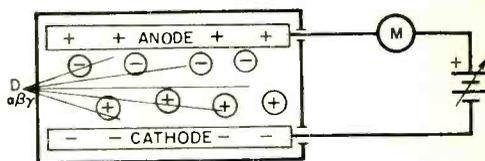

Fig. 3. Ionization current measurement.
**Detecting Ionization Current.** The basic scheme shown in Fig. 3 is an example of a radiation detector. Attached to the detector, in series with a sensitive ionization pulse current meter, is a power supply which can be varied from zero to some high voltage.
Assume that the detector chamber which contains a counting gas (Fig. 3) is exposed to a radioactive source with the detector voltage set to zero. There is no electrical field to accelerate the ions which wander about and eventually recombine. Hence, no meter pointer deflection will be observed.